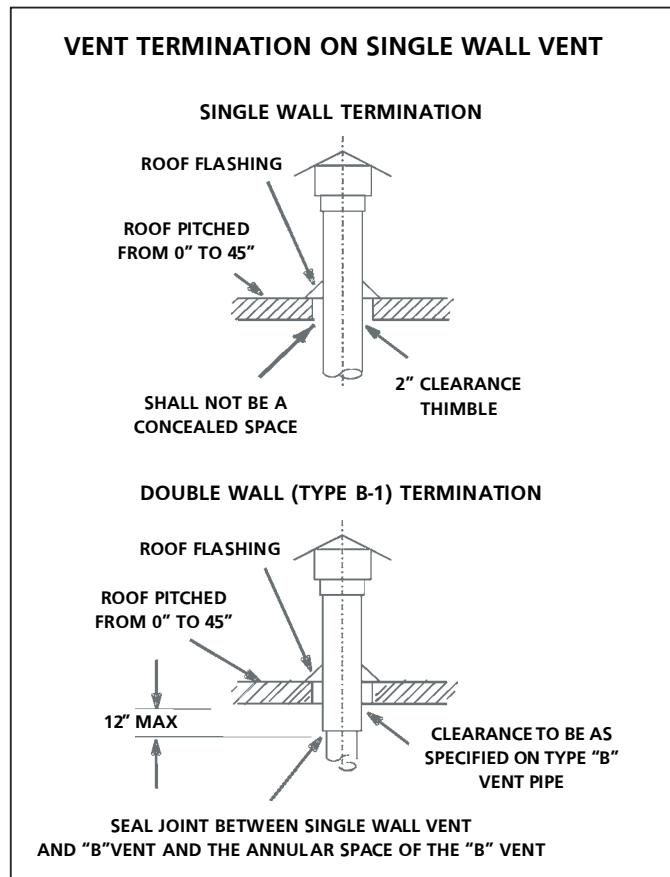

FIGURE 2
1. MHU unit heaters are to be used with NFPA- or ANSI-approved chimneys, U.L. listed type B-1 gas vents, single wall metal pipe, or listed chimney lining system for gas venting where applicable, as well as the modifications and limitations listed in **figure 2**. Seal single wall vent material according to the section **A - General Recommendations and Requirements**.
8. When termination is routed through an exterior combustible wall the vent must be supported using a listed clearance thimble. Seal the connection between the single wall and double wall pipes and the annular space of the double wall pipe as shown in figure 2. Inside edge of vent termination tee must be at least 12 inches from outside wall as shown in figure 3.